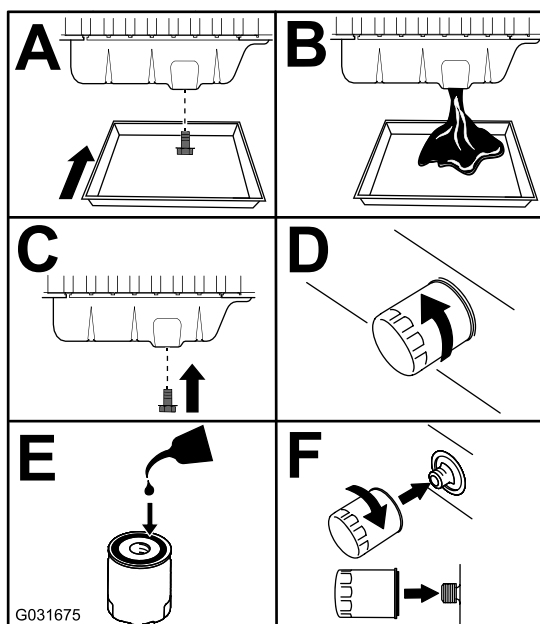

Figure 57
3. Replace the engine oil and filter (Figure 57).